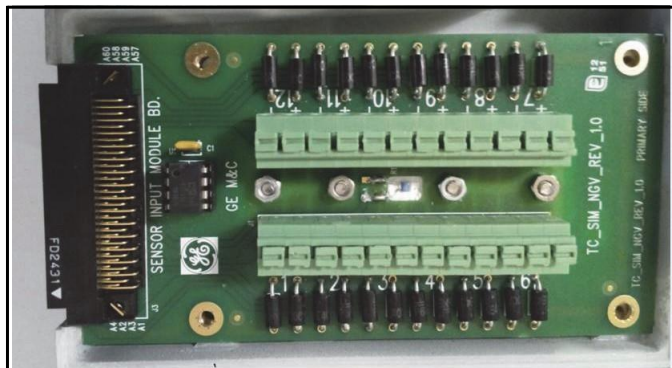

Figure 8: SIM Wiring
1. Loosen the two screws in the top of the module to open a SIM. Figure 8 below shows the inside of a SIM.